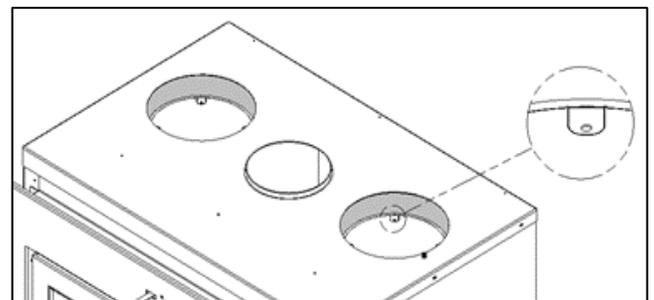

Figure 3-19: Tabs Inside the 8 Inch Knockouts
3. Bend the tabs inside the 8 inch knockouts (Figure 3-19) upwards.